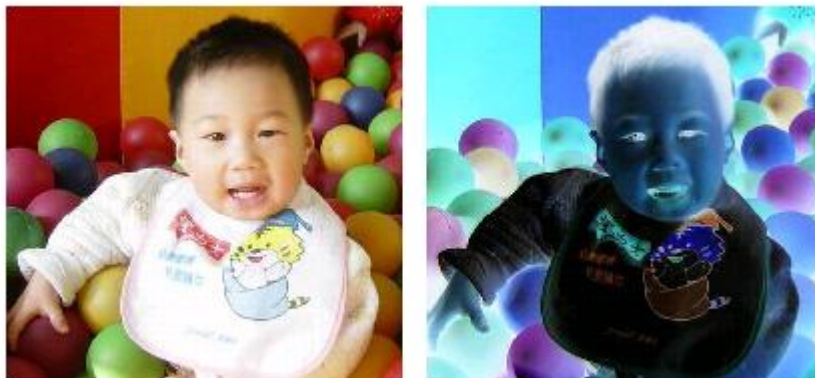

Figure 4-53 Invert Effect (Left is original.)
**Invert:** run negative effect on photos (Figure 4-53)